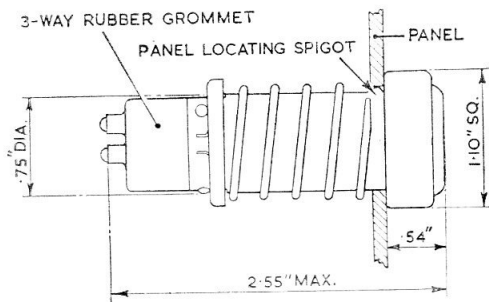

Fig. 2. Installation diagram
2. A part sectional view of the Dowty three-position indicator is shown in fig. 1 while fig. 2 is an installation diagram showing the indicator mounted on a panel. A retaining spring fits over the indicator, between the panel and a bayonet type fixing ring, thus providing a flexible mounting. A key in the top end of the indicator body fits in a slot in the panel to prevent the indicator from rotating.
7. An installation diagram is shown in fig. 2 and illustrates the method of attaching the indicator to the panel. The panel cutaway should be as shown with the keyway at the TOP for vertical or sloping panels.